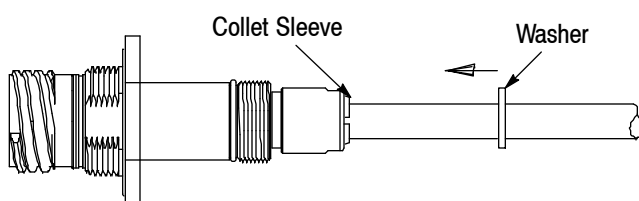

Figure 12
6. Using an applicator swab, apply a *thin film* of the O-ring grease around the O-ring of the EB insert. Refer to Figure 12, Detail A.
7. Mount the housing onto the keyed adapter tool or bench-mount fixture. Align the internal key (small bar inside) of the housing with the keyway (slot along the side) of the EB insert, and slide the EB insert assembly into the housing. See Figure 12, Detail B.
9. Slide the wave spring and compression sleeve over the crimp sleeve and into the housing. See Figure 12, Detail C.
10. Apply 2 to 3 drops of the threadlocker to the threads at the front of the collet sleeve. See Figure 12, Detail D.
11. Slide the collet sleeve over the crimp sleeve and into the housing. Refer to Figure 12, Detail D. Thread the collet sleeve onto the housing, **BEING VERY CAREFUL NOT** to pinch the end of the collet sleeve which would cause the cable to twist. Using the 13-mm open-end wrench and torque wrench or torque stand, tighten the collet sleeve to a torque between 3 and 4 N-m.
12. Using an applicator swab, apply a *thin film* of the O-ring grease to the housing O-ring, threads at the back of the collet sleeve, and the ramp of the collet sleeve. Refer to Figure 12, Detail E.
13. Slide the collet nut onto the collet sleeve. See Figure 12, Detail E. Using the 13-mm open-end wrench and torque wrench or torque stand, tighten the collet nut to a torque between 1 and 2 N-m.
14. Slide the washer against the collet sleeve. See Figure 12, Detail F.